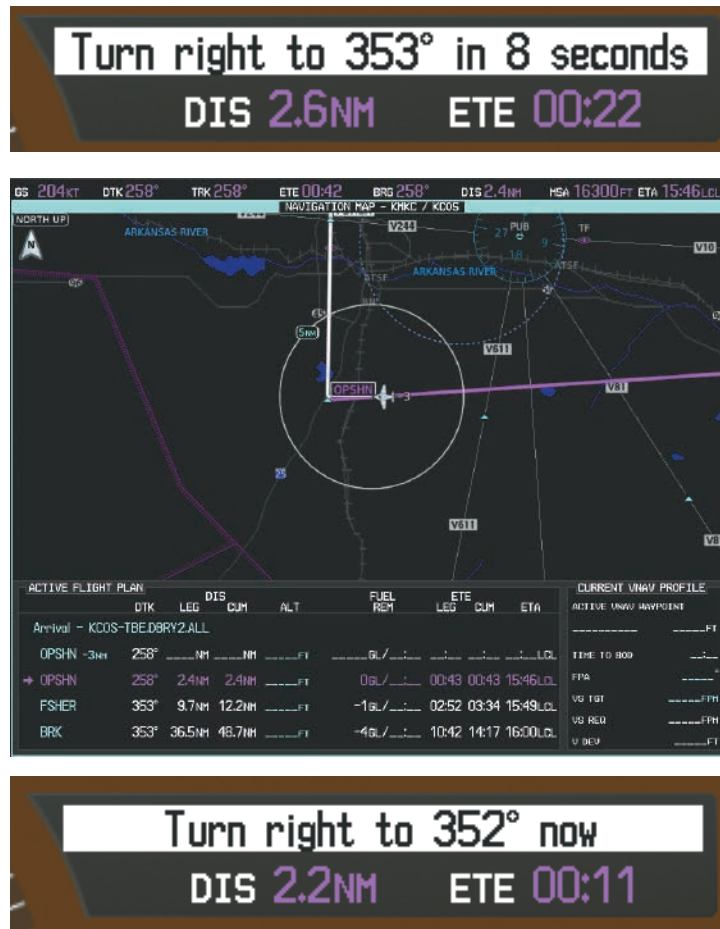

Figure 5-197 Turn to intercept OPSHN to FSHER Leg
- 18) The aircraft is approaching OPSHN. The upcoming turn and next heading are announced at the top left of the PFD as seen in Figure 5-197. Initiate the turn and maneuver the aircraft on a track through the turn radius to intercept the magenta line for the OPSHN to FSHER leg and center the CDI.